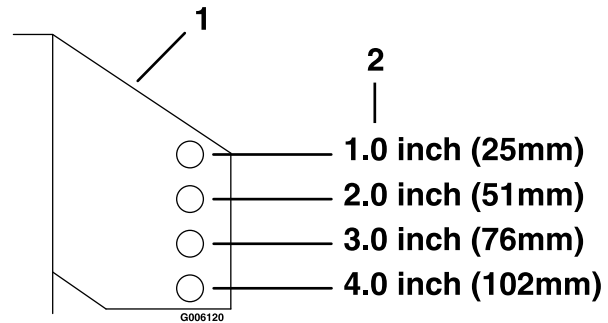

Figure 10
6. Place the rollers in one of the positions shown (Figure 10). Rollers will maintain 3/4 inch (19 mm) clearance to the ground to minimize gouging and roller wear or damage.